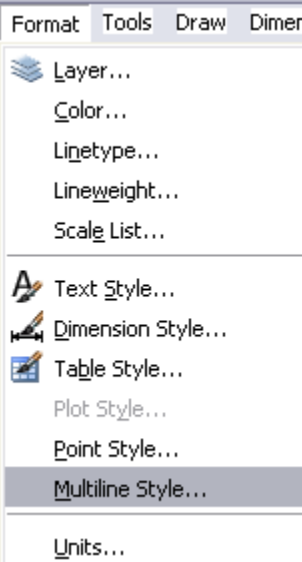

Figure 1
1. From pull_down menu "Format" select Multiline Style, or type MLSTYLE from the command line. (Fig. 1)